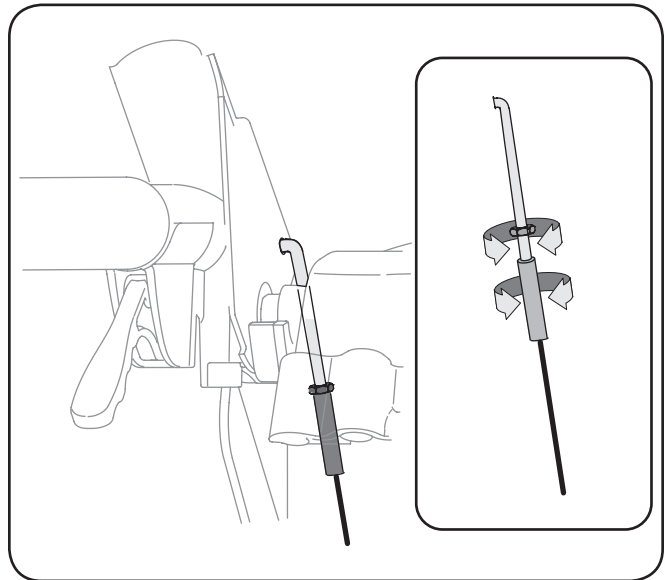

Figure 3-13
8. Thread the ferrule without turning the cable onto the “Z” fitting until there is no slack in the cable. See Figure 3-13. Do not overtighten the cable. Hold the flats on the ferrule with pliers and tighten the jam nut against the ferrule.